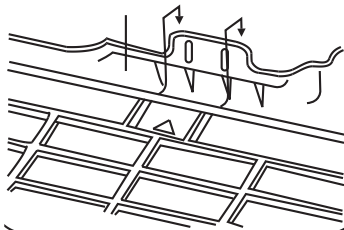

Fig. 12 – Hanging Indoor Unit
4. Hang indoor unit on upper hooks of wall mounting plate (as shown in Fig. 12)